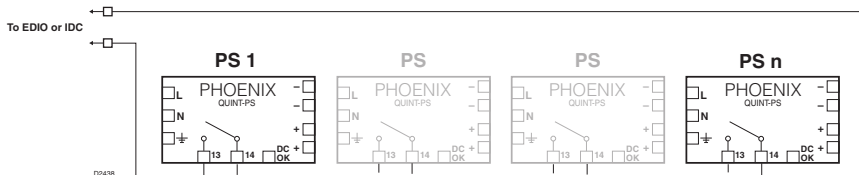

Figure 3-20—Power Supply and Converter Relays Wired in Series for Trouble Monitoring (up to 16 Power Supplies/Converters)
3. To ensure compliance with NFPA 72®, primary and secondary power supplies shall be monitored for the presence of voltage at the point of connection to the system. Connect the power supply unit for preferred preventive function monitoring. Refer to Figure 3-20 for an example of power supply relays wired in series for power monitoring.